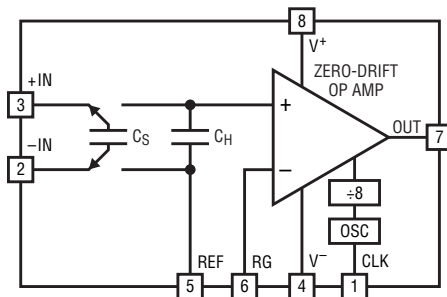

Figure 1. LTC2053-SYNC instrumentation amplifier includes an external clock input for sample rate control.
The LTC2053 is a highly popular precision instrumentation amplifier for differentially acquiring DC or low-frequency signals—it's popularity is mainly due to its offset uncertainty below $10\mu\text{V}$ worst case and DC common-mode rejection of 116dB. It owes its high performance to a switched-capacitor front-end that drives a Zero-Drift (ZD) operation amplifier (shown in Figure 1). The LTC2053 incorporates a fixed-frequency timing generator to coordinate the switched-capacitor activity. The nominal input sampling rate, f_s , is 3kHz, which is not necessarily ideal for all applications.
Figure 1 shows a simple battery-operated temperature monitor that outputs a frequency proportional to temperature. The beauty of the circuit lies in its simplicity and low power draw: a mere 27µA typical at room temperature, and 50µA max over the industrial temperature range—low enough to run from a pair of 1800mAh AA batteries for over four years. The circuit maintains operation with supply voltages as low as 2.5V.